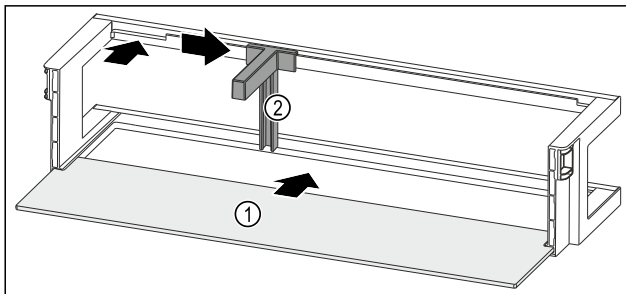

Fig. 135 Door rack with shelf
- Push the shelf Fig. 135 (1) into the side recesses.
- Insert the bottle holder Fig. 135 (2) in the recess.
- Push the bottle holder Fig. 135 (2) to the desired position to the side.